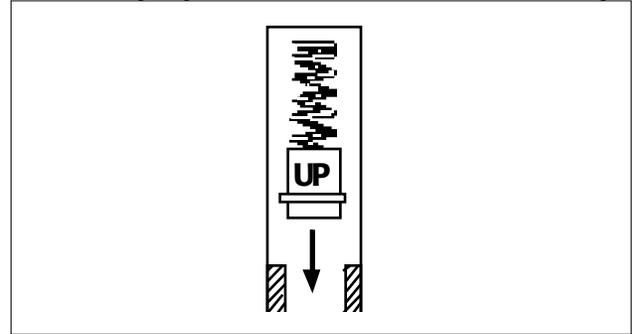

FIG. 3
3. Install the three engine brake housings on the rocker lever housings. Install the six mounting screws into each housing. Tighten the screws in steps, following the pattern illustrated in Fig. 3. First tighten to 35 lb.-ft. (48 N•m), then to 70 lb.-ft. (95 N•m).